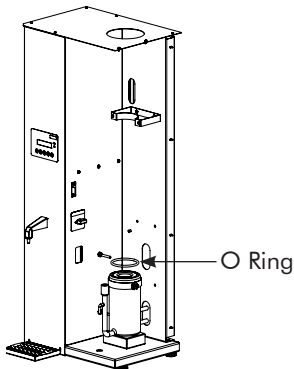

Fig 16.3
3. Place the silicone O-ring on the Primary Boiler (fig. 16.3).